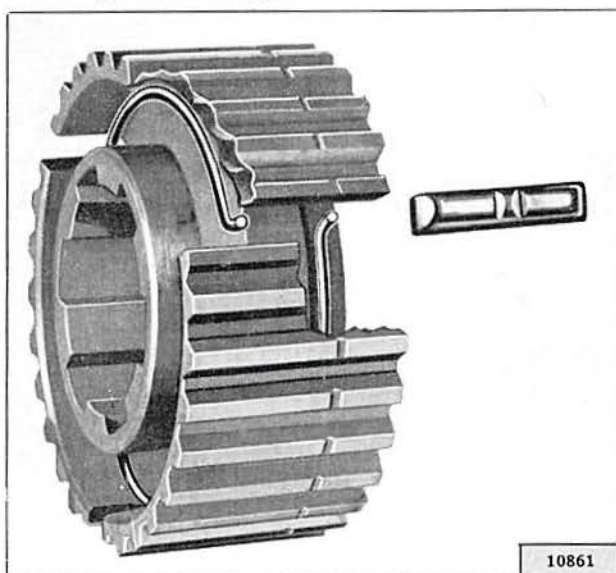

FIG. 189—SYNCHRONIZER SPRINGS
- f. Next, assemble the synchronizer unit. The assembly sequence of the synchronizer is shown in Fig. 189. First install the two springs in the high and intermediate clutch hub. These springs must be installed with the spring tension opposed. Place the right lipped end of a spring in a slot of the hub and place the spring in the hub. Turn the hub around and make exactly the same installation with the other spring starting with the same slot. Fig. 191. Install the three synchronized shifting plates in the three slots in the hub with the smooth side of the plates out. Hold the plates in position and slip the second and direct speed clutch sleeve over the hub. Install the two blocking rings one on each side of the hub.